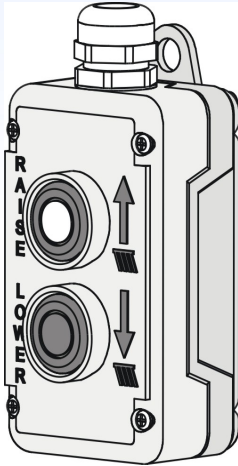

Figure 12 - Hand Control Operation
2. As shown in Figures 12 and 13, depress the raise button or pedal to raise the platform to a convenient height. CONTINUOUSLY WATCH the condition of the load as the platform is raised. If the load appears to be shifting, STOP, lower the platform and adjust the load.
2. Depress the lowering button or pedal (see Figures 12 and 13) to lower the lift platform. CONTINUOUSLY WATCH the condition of the load as the platform is lowering. If the load appears to be shifting, STOP and adjust the load. All EZ Off Lifters are equipped with a feet clear safety circuit. When lowering the platform, this safety control feature automatically stops the platform descent at 9.00 in. (229 mm) above the floor. To continue lowering the platform, release the "LOWER" button and depress it a second time. At that time, the warning lights and beeper alert the operator and to others to say clear of the platform that is preparing to lower. After a three (#) second delay, the platform will lower to its minimum height.